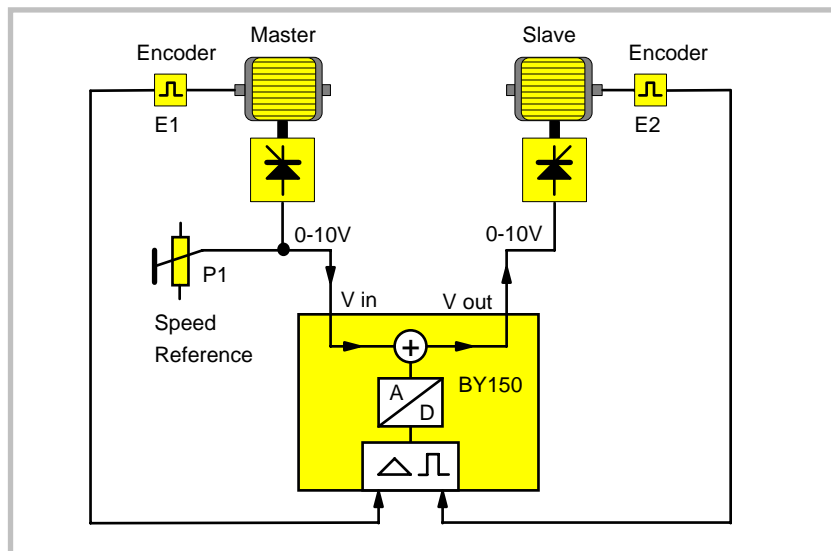

Fig. 3
Fig. 3 shows that a **feed forward signal "Vin"** is needed to run the drives, and a correction voltage is added to receive the total slave speed reference "Vout". It is easy to understand that the feed forward signal must be proportional to the master speed. There are two ways to generate Vin:
- a) Use of the master speed reference voltage, like shown in Fig. 3. This presumes the master drive does not use any remarkable internal ramps, because otherwise Vin would not represent the real master speed upon acceleration or deceleration. As a result, procedure a) must only be used when the master speed reference already includes the ramp (generated by a PLC output etc.) and the drive's internal ramp is set to zero or it's minimum value. However, a real speed analogue signal from a tacho generator can be used at any time.